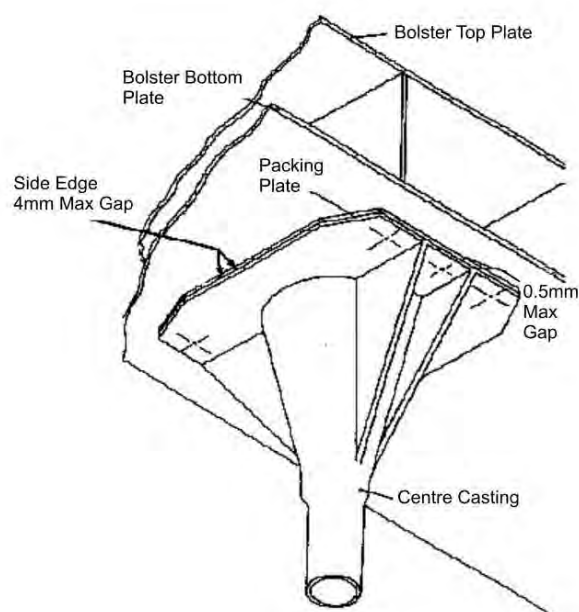

Figure 1: Centre Casting Refacing Limit
3. If any misalignment is present, the casting faceplate can be surface ground or machined to level off the face, subject to a minimum thickness of 9mm being maintained (see Figure 1). If the resulting face thickness after flattening is less than 9mm then the casting must be renewed.